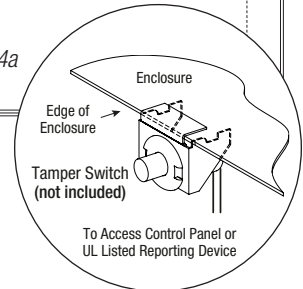

Fig. 5 - Maximal77D
+ BAT –	Stand-by battery connections. Connect one (1) 12VDC battery to the terminals marked [+ BAT –] for 12VDC operation ( Fig. 3, pg. 10, Fig. 5, pg. 12 ). Use two (2) 12VDC batteries wired in series for 24VDC operation ( Figs. 3-5, pgs. 10-12 ).